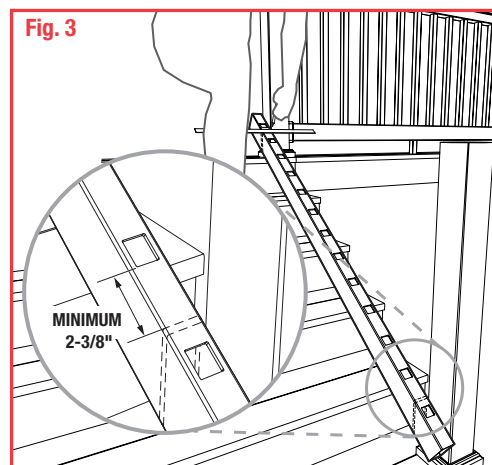

Fig. 3
- 3 Lay the bottom rail beside the posts with the prerouted Baluster holes facing upward and evenly spaced. Mark the rail with an additional 1/8" removed from each end to compensate for the metal brackets. **(Fig. 3)**
- 4 Lay the top rail beside the bottom rail with the Baluster holes aligned. Mark and cut the top rail to match the bottom rail length and the end spacing. **(Fig. 3)**
4. Mark the required rail length with an additional 1/8" removed from each end to compensate for the metal brackets. (Fig. 3)